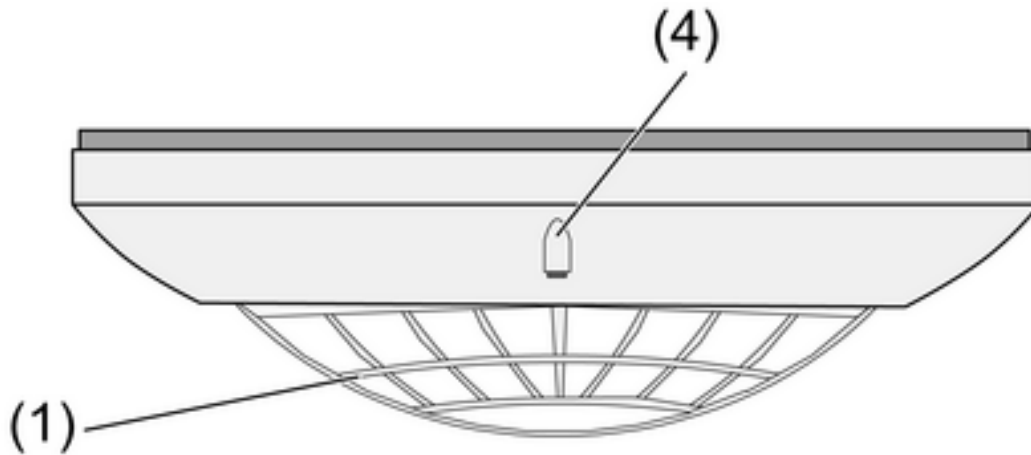

Figure 11
- To activate the light control test mode, press the button (4) for at least 1 second (Figure 11). The light control test mode is activated for about 5 minutes. During this time the LED (1) behind the sensor window first flashes 10 times quickly, then periodically every 5 seconds.
- To activate the walking test mode, press the button (4) for less than 1 second (Figure 11).